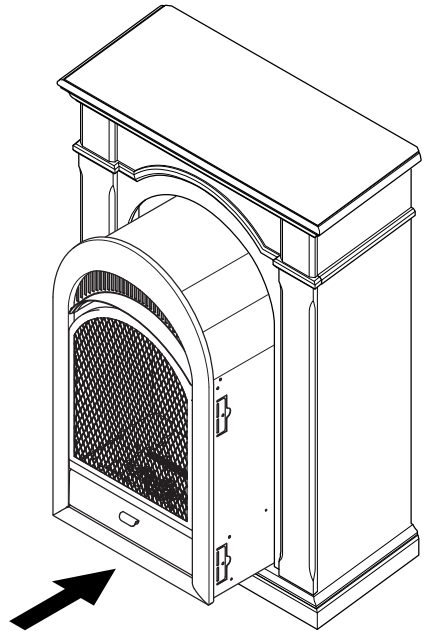

Figure 11 - Installing Fireplace Insert Into Mantel
1. Carefully push the fireplace insert into the mantel from the front as shown in Figure 11.